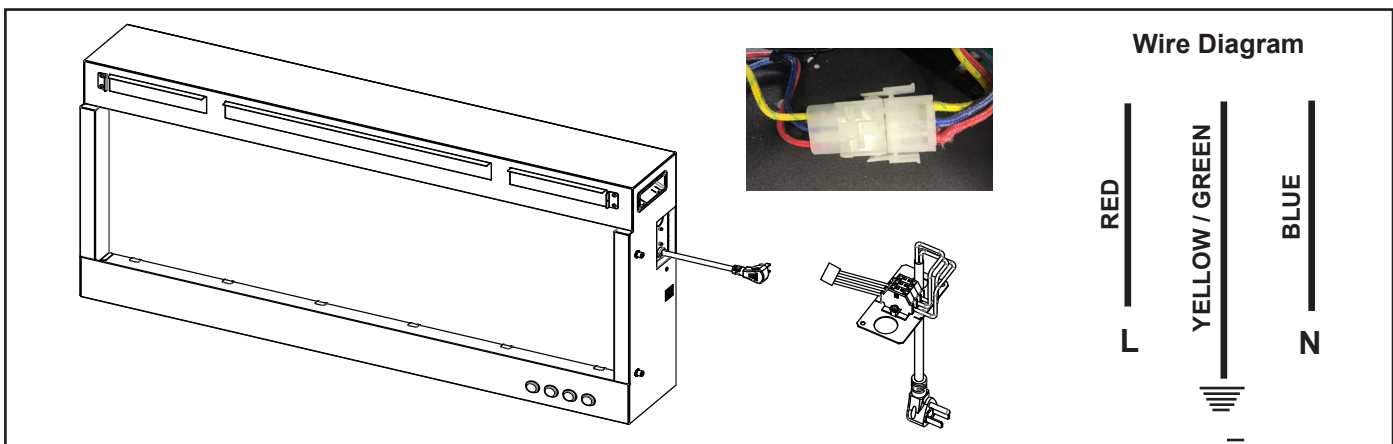

Figure 4.15 Optional Power Cord Assembly
3. Connect the three conductor wire connector to the connector on the block supplied with the power cord kit. See Figure 4.15.